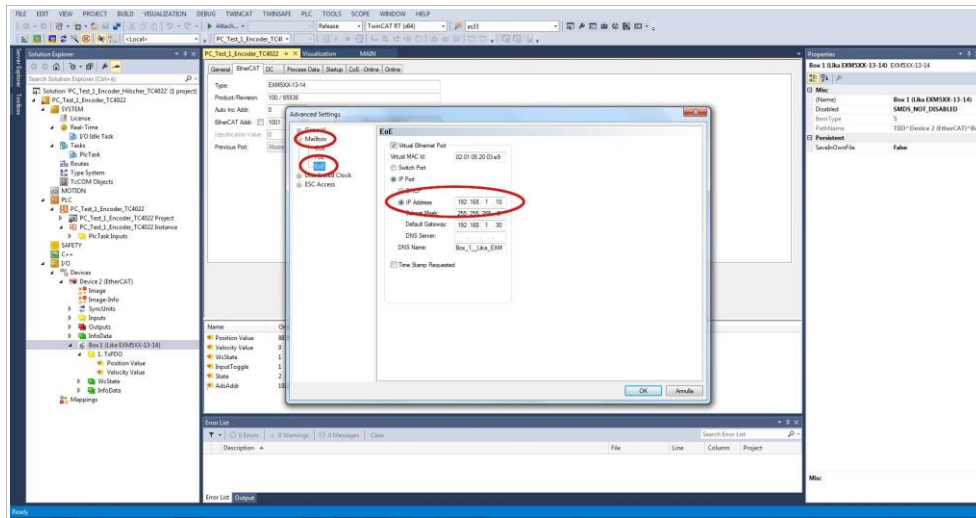

Figure 57 - Advanced Settings page
2. In the **Advanced Settings** page open the **Mailbox** list and then press the **EoE** command: the **EoE** group box will be displayed. Check the assigned IP address next to the **IP Address** item (192.168.1.10 in Figure 57).